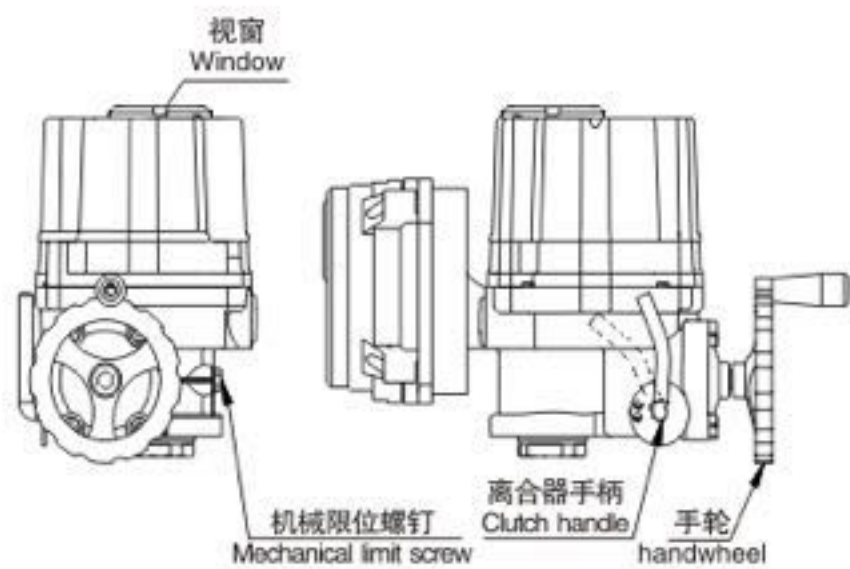
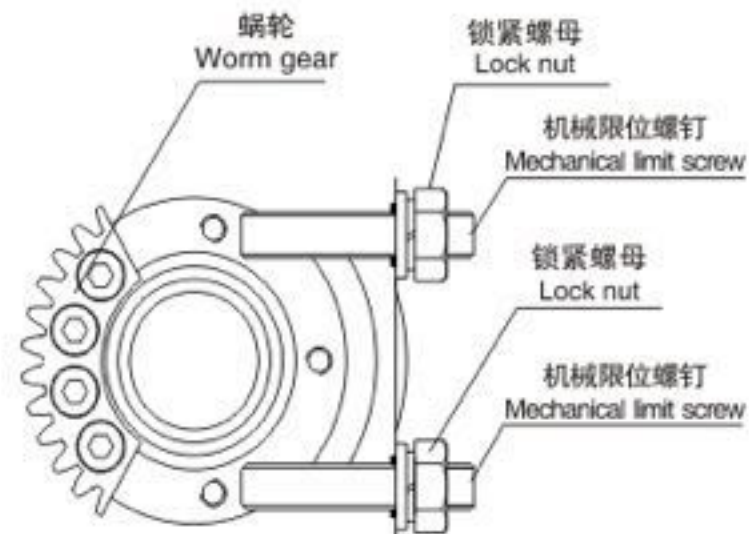

图9 Figure 9
图10 Figure 10
7.1 机械限位调整 (图9、图10) Adjustment of mechanical limit (Figs. 9 and 10)
松开机械限位螺钉及锁紧螺母，边转动手轮旋转一圈，边向左扳动一下离合器手柄，使离合器啮合后，继续旋转手轮，然后手动使执行器运动到全关的位置，旋转限位螺母，当其碰到里面的扇形齿轮后停止转动，再旋出两圈，最后上紧锁紧螺母。这样就设定好了执行器全关时的机械限位的位置。全开时的位置可同样设定。如图9、图10所示：
Loosen the mechanical limit screw and the lock nut; rotate the handwheel for one turn while turning the clutch handle to the left to engage the clutch; after that, continue to rotate the handwheel; then move the actuator manually to the fully-closed position; rotate the limit nut until the nut touches the fan-shaped gear inside, screw out the nut for two turns, and finally tighten the locknut. By doing so, the mechanical limit position can be set when the actuator is fully closed. The position for the fully-open case can also be set. As shown in Figs. 9 and 10: